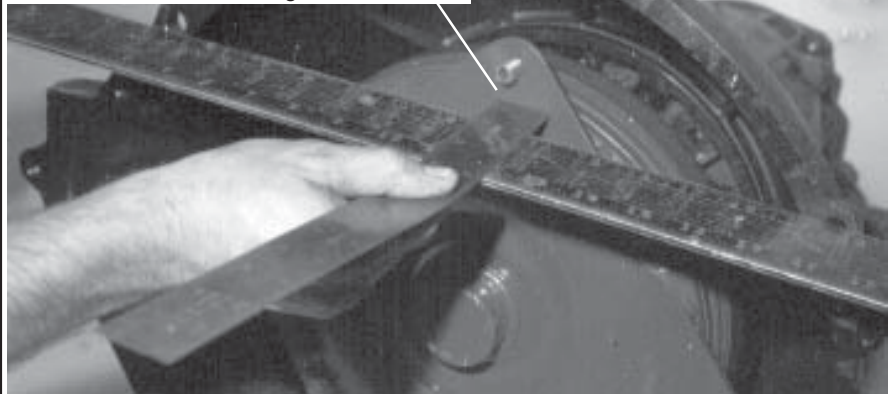

Figure 7
STEP 7. Remove dipstick and tube assembly. Remove torque converter, cover pan bolts and remove converter cover pan (see Fig. 6). Remove flexplate to converter bolts (see Fig. 7). Use starter motor to "bump" each bolt into position.
converter to engage input shaft, stator shaft and oil pump rotors. Place a straightedge across the face of the transmission bellhousing. Measure the distance from the face of the bellhousing to the base of the torque converter drive stud. (See Fig. 7) The base of the stud must be at least **13/16" (4 cyl-351 V-8) or 1-1/8" (360 Larger-V-8) inside the bellhousing**. A measurement of less than 13/16" (4 cyl-351 V-8) or 1-1/8" (360-Larger V-8) indicates the torque converter is not fully engaged in the transmission, except torque converters specially built for motor plate applications. (Subtract the thickness of your motor plate from the 13/16" or 1-1/8" dimension for proper measurement.) Continue to rotate and turn the converter to obtain full engagement. **If you install the transmission without full converter engagement, you will damage the oil pump and/or converter.**